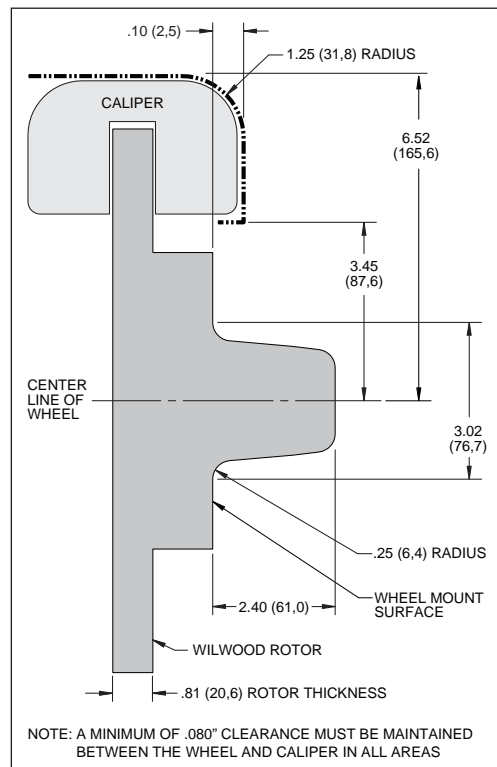

Figure 2. Wheel Clearance Diagram
- Review the Wheel Clearance Diagram (Figure 2, page 3) to verify that there is adequate clearance with the wheels you will be using with the installation.
- Verify wheel clearance using Figure 2.
- WARNING:** The wheel contact surfaces must seat completely on the face of the hub. If any contact surfaces overhang the outside diameter of the hub face, a 6.60" diameter x .20" thick steel spacer (item 16, Wilwood P/N 300-11961) MUST be used between the wheel and the hub.